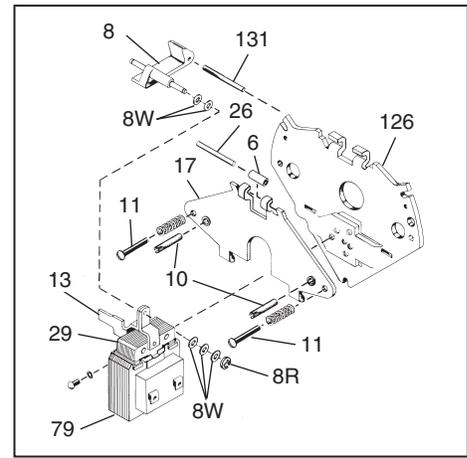

Figure 2
1. Refer to Figures 2 and 8. Insert screwdriver between support plate (126) and lever arm (17). Wedge apart and remove bearing pin (26), bearing (6), pin